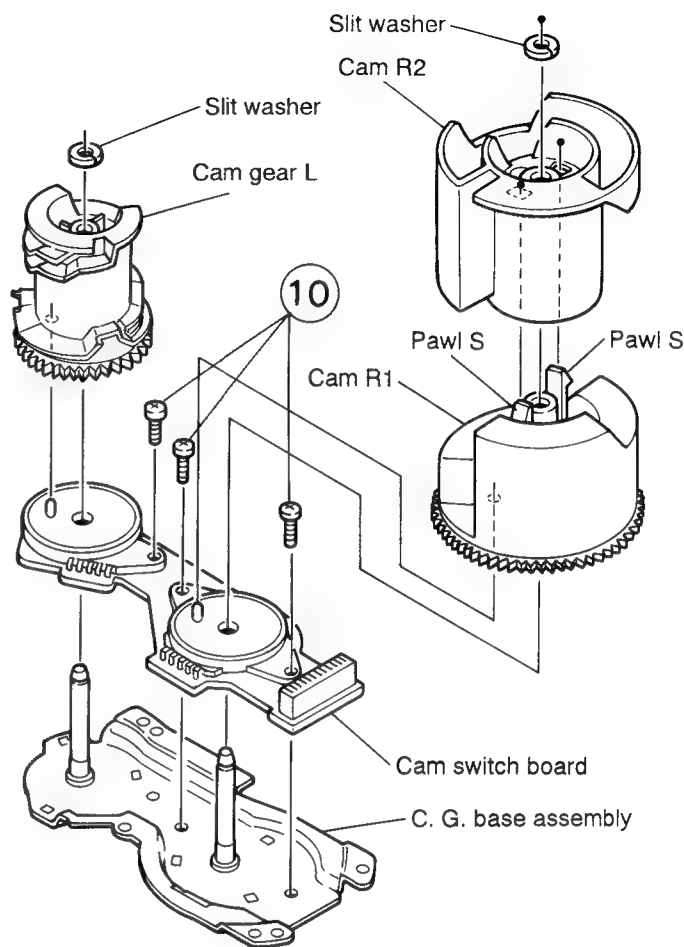

Fig. 5-52
■ Removing the cams R1/R2 assembly and cam gear L (See Fig. 5-52)
2. By removing the two pawls (S) fixing the cam R1, separate R2 from R1.
■ Removing the C.G. base assembly (See Figs. 5-52 and 5-53)